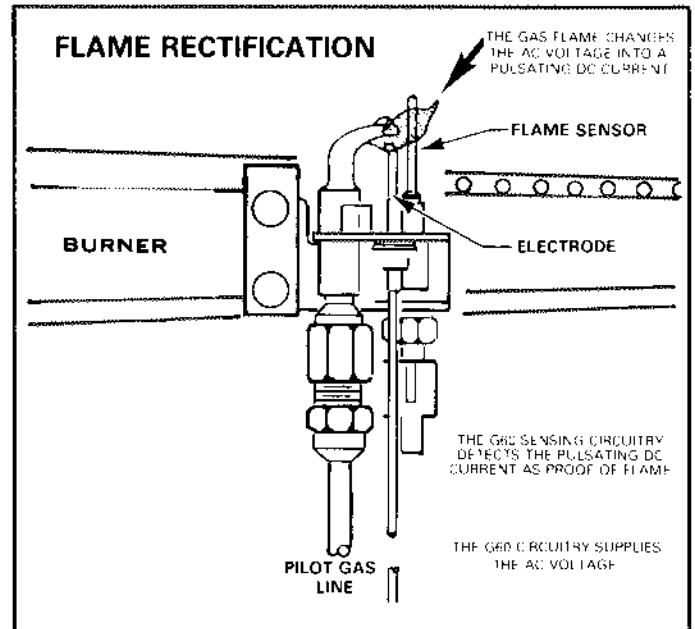

**FIGURE 9**
**4 - Electronic Ignition Components (Figure 9)**
Individual mated components consist of pilot assembly, ignition control, and gas valve. Figure 9 shows correct pilot assembly orientation. The normal operating range is from 1.5 (minimum) to 2.5+ microamps. Ratings below .7 microamps will lockout system.